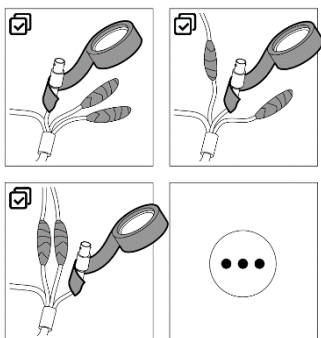

Figure 3-1 Waterproof Cables
1. Connect the camera with the TVI DVR and the monitor, as shown in figure 3-1.